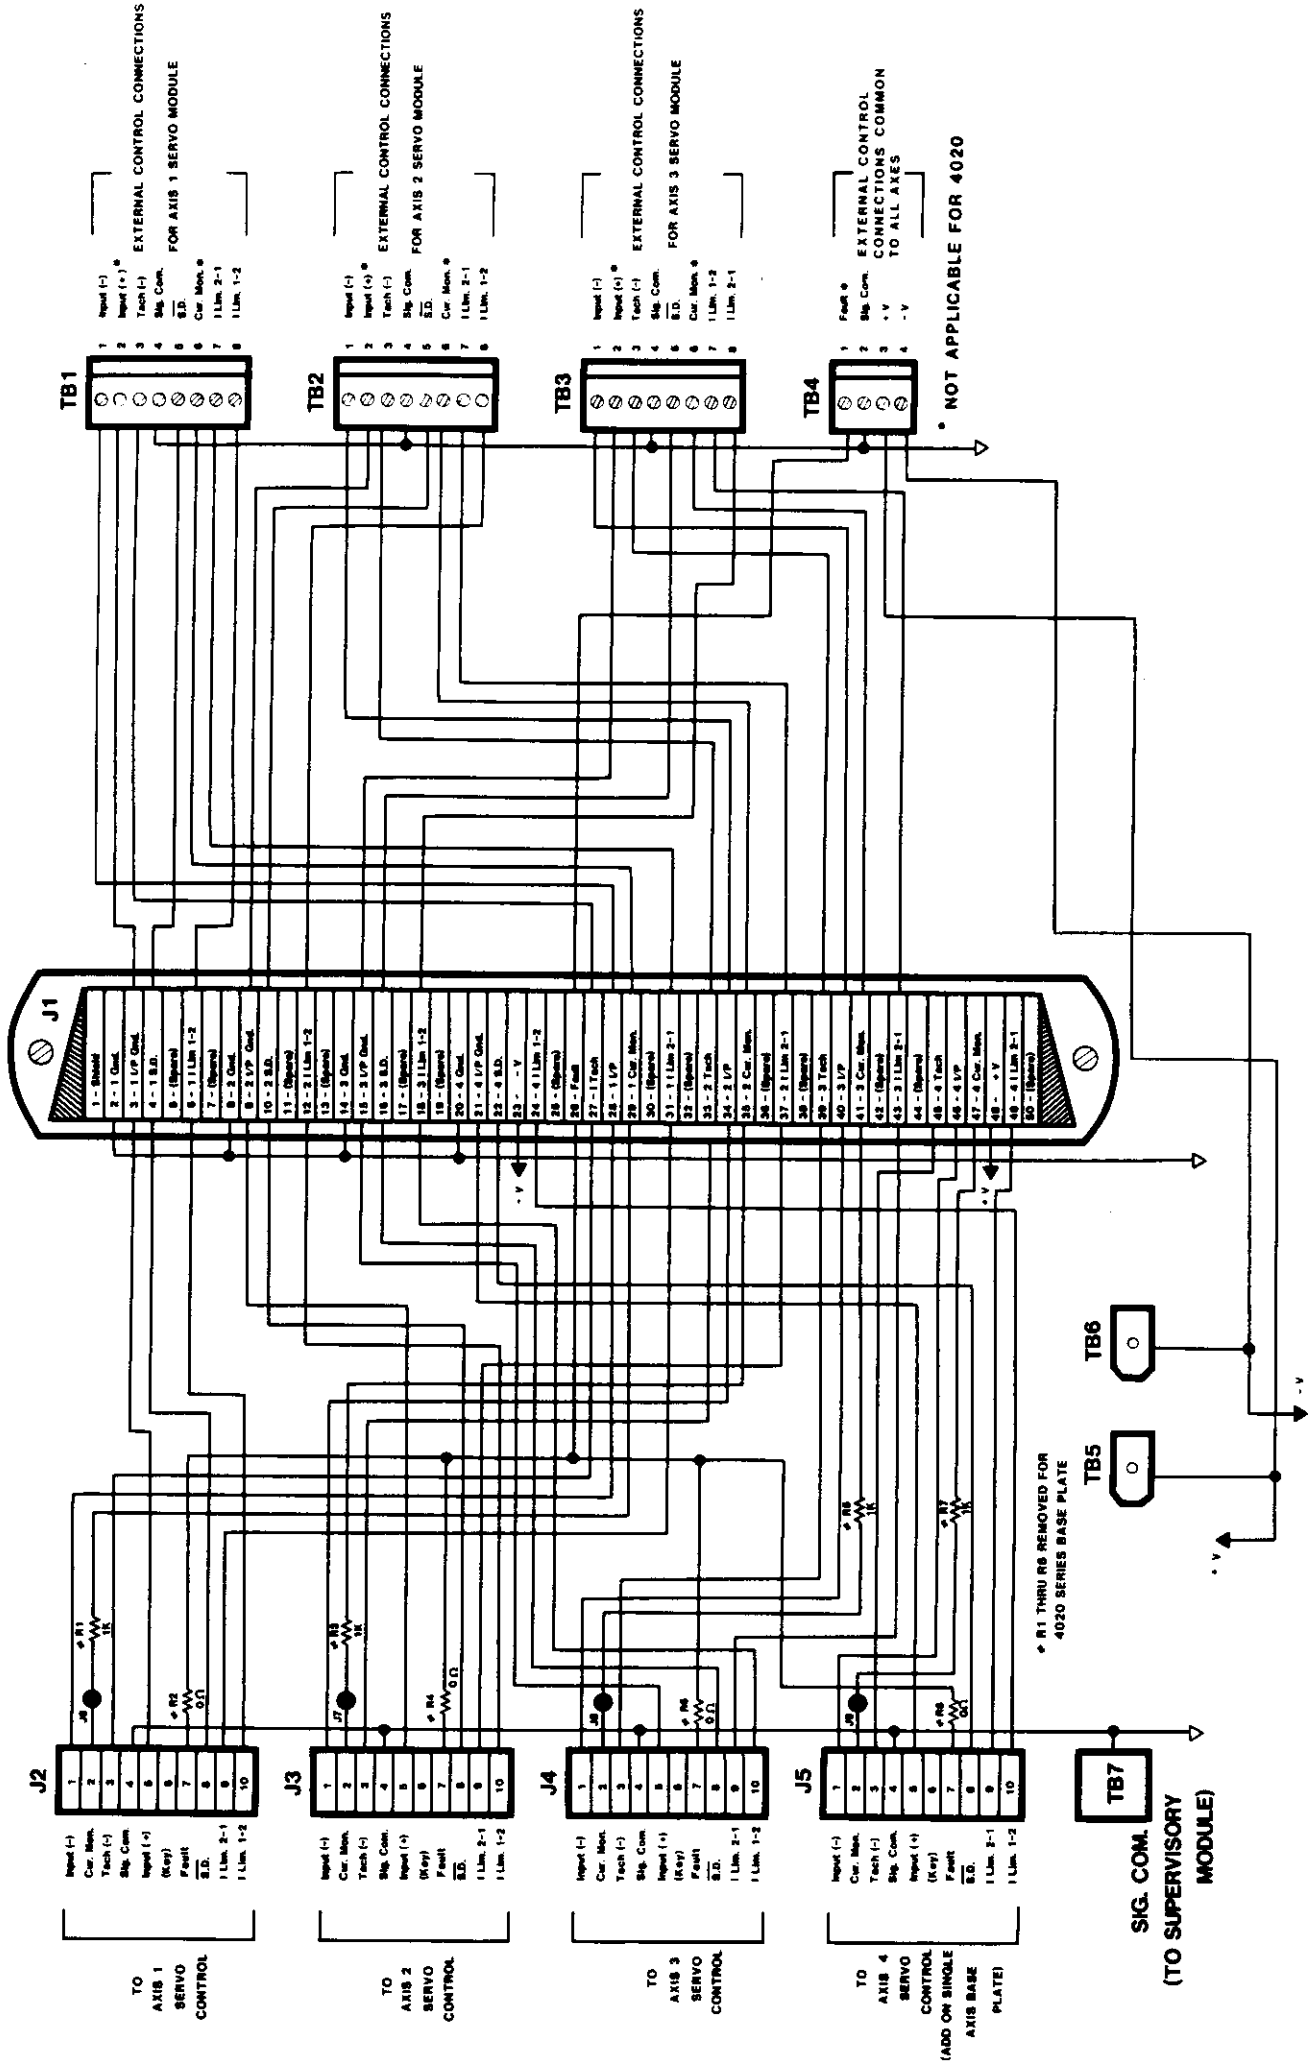
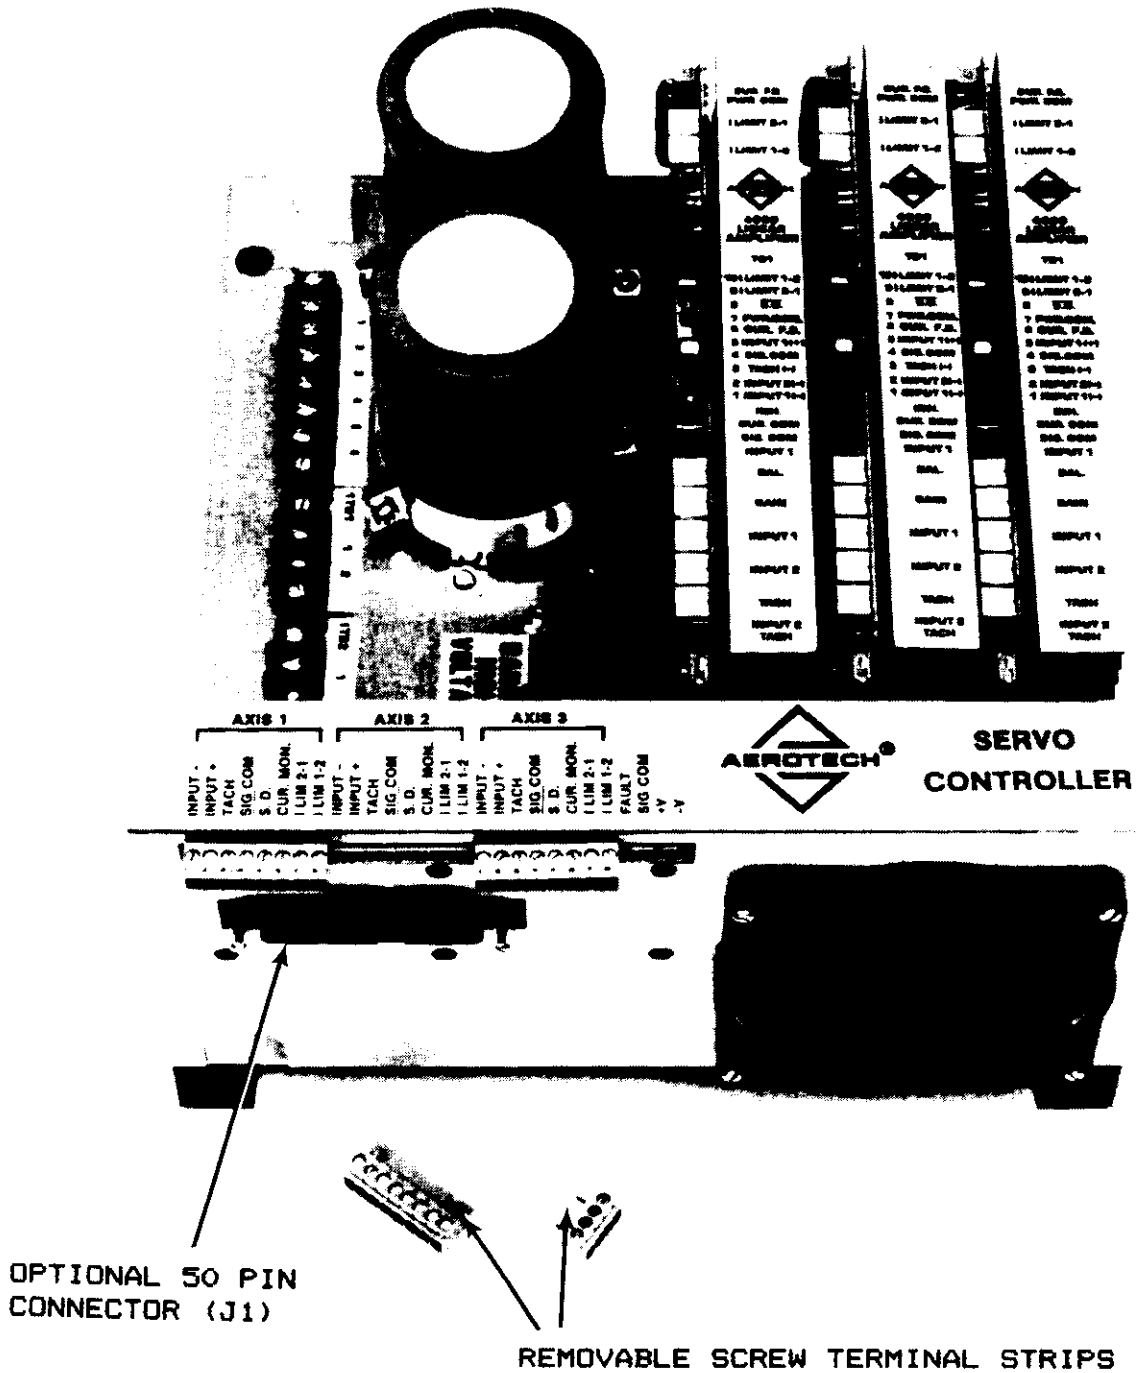
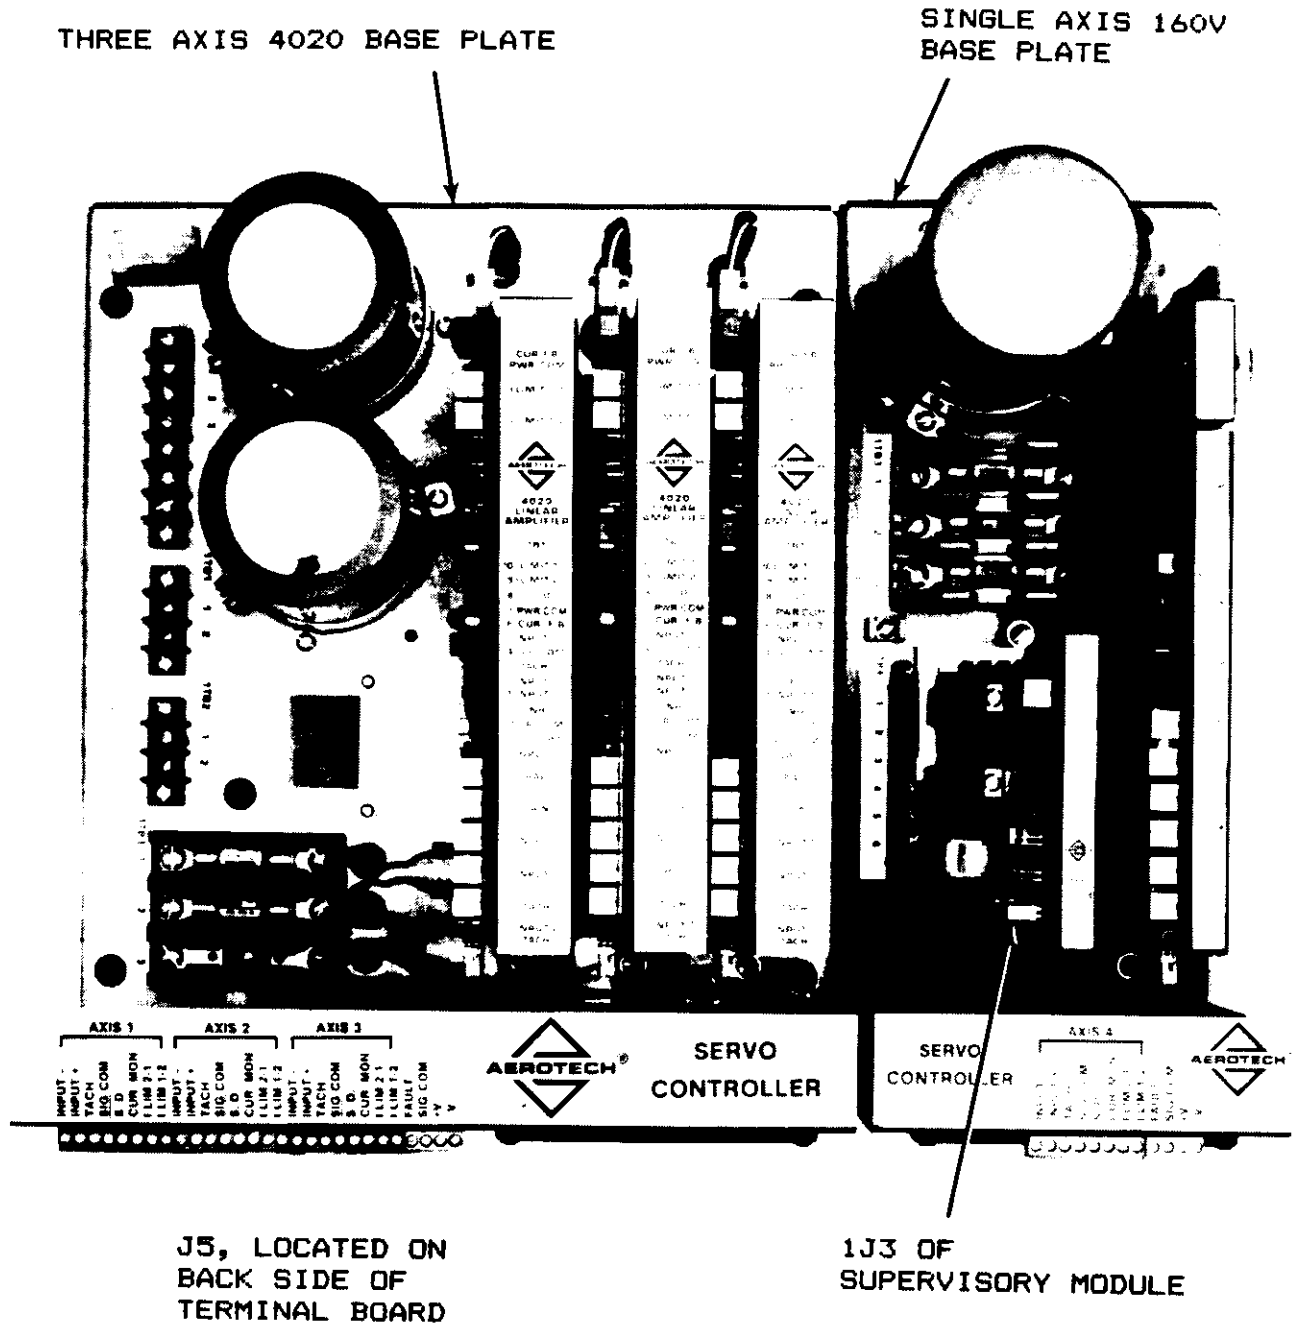

FIGURE 2-11 SCHEMATIC OF TERMINAL BOARD
FIGURE 2-12: SIDE VIEW OF THREE AXIS BASE PLATE SHOWING LOCATIONS FOR CONTROL CONNECTIONS
FIGURE 2-13: THREE AXIS BASE PLATE "MATED" WITH A SINGLE AXIS BASE PLATE TO CREATE A 4-AXIS SYSTEM
* SEE FIGURE 2-11
Figure 2-11 shows the schematic of the terminal board. Locations of connections to the terminal board from an external controller is shown in figure 2-12.
Referring to figure 2-11 and 2-12, it is noted that TB1, TB2, TB3 and TB4 are "screw type" connectors, allowing the user to wire to the terminal board with discrete connections. If desired, an optional mass termination of the control connections can be accomplished by utilizing the 50 pin connector, J1. All connections shown for TB1, TB2, TB3 and TB4 are available on connector J1. Using connector J1 for control interfacing instead of TB1, TB2, TB3 and TB4 allows an additional advantage to that of providing mass termination. With connector J1, 4 axis interfacing with a single connector is possible, when a single axis base plate is "mated" with the three axis base plate, as shown in figure 2-13.